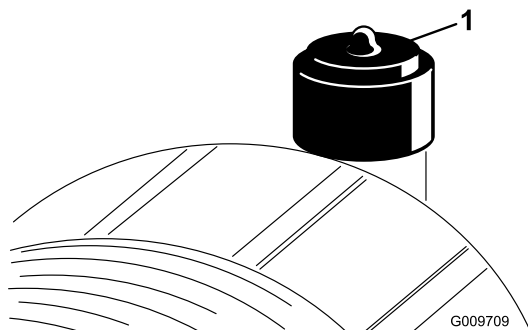

Figure 53
Service the air cleaner filter only when the service indicator (Figure 53) requires it. Changing the air filter before it is necessary only increases the chance of dirt entering the engine when the filter is removed.
6. Reset the indicator (Figure 53) if it shows red.